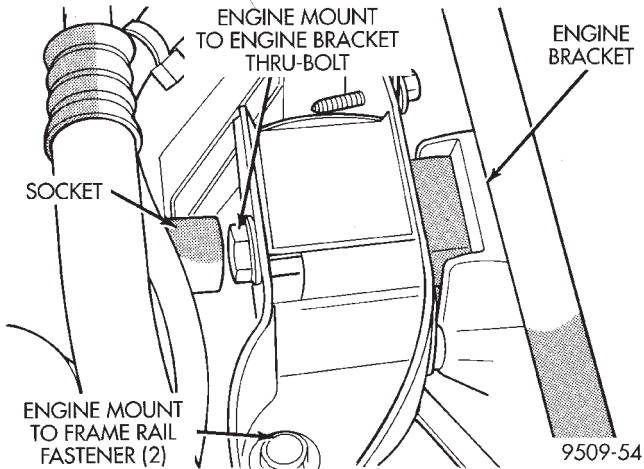

Fig. 12 Engine Mounting—Right
- (1) Remove the purge duty solenoid from engine mount bracket.
- (2) Remove the right engine mount insulator vertical fasteners from frame rail (Fig. 12).
- (3) Remove the load on the engine mounts by carefully supporting the engine and transmission assembly with a floor jack.
- (4) Remove the thru-bolt access hole cover. Remove the thru-bolt from the insulator assembly (Fig. 12). Remove insulator.
- (5) Reverse removal procedure for installation. Tighten engine mount to rail fasteners to 54 N·m (40 ft. lbs.), then tighten engine mount to engine bracket thru-bolt to 108 N·m (80 ft. lbs.).